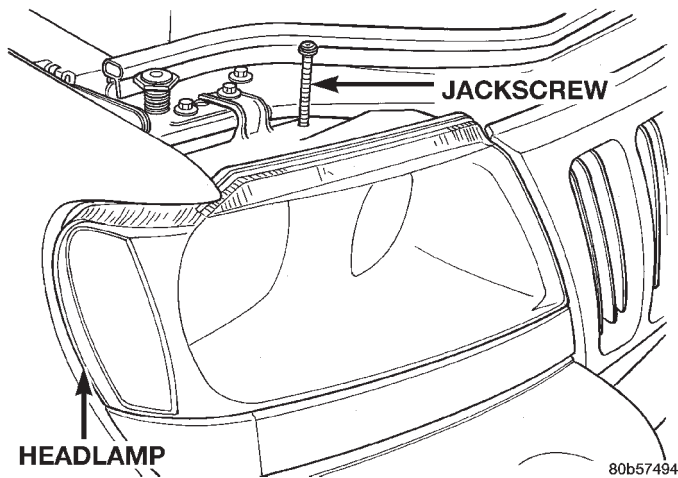

Fig. 1 Headlamp Jackscrew
- (1) Remove jack screw attaching top of headlamp to headlamp mounting module (Fig. 1).